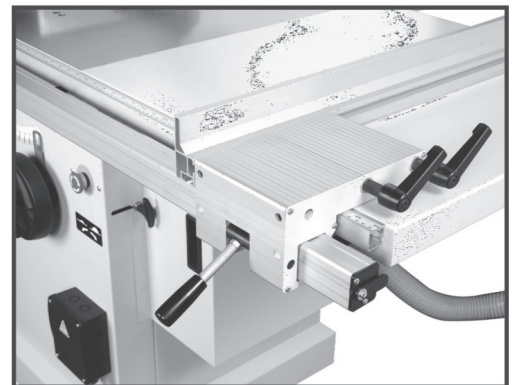

Fig. 12
7. Lock the rip fence with the handle on the right hand side the rip fence body. (Fig.12)